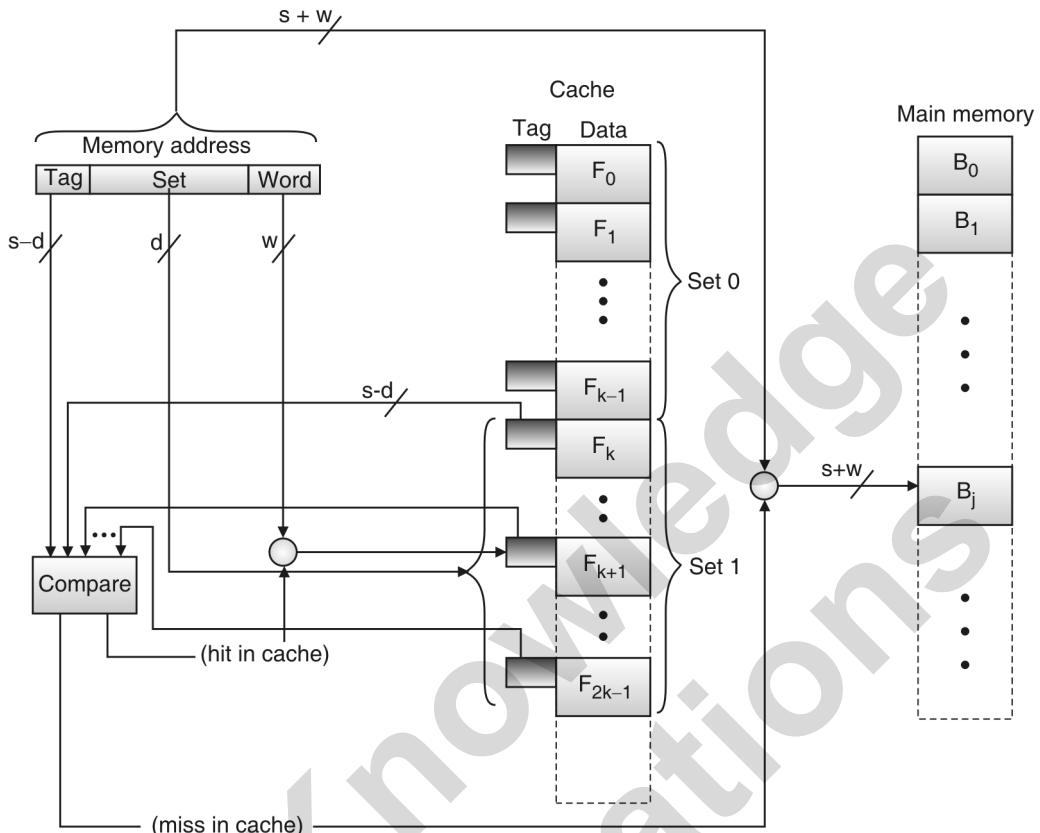

Fig. 11.9.3
- Fig. 11.9.3 shows an example of Two Way Set Associative Cache Organization